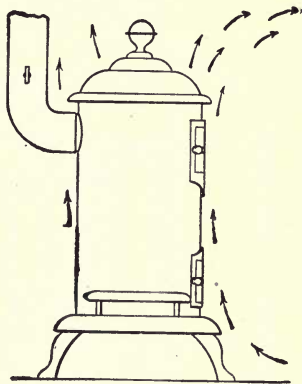

FIG. 172.—Heating by Stove.
**383. Methods of Heating.**—Modern buildings and houses are heated by stoves, steam, hot water, or furnaces. The choice of any particular method will depend upon special conditions and requirements. Heat is given from a stove by radiation (Fig. 172); that is, the stove becomes hot, due to the burning of coal, and the metallic parts radiate the heat. A stove is not an economical means of heating, because much of the hot air goes up the chimney and is wasted. Moreover,